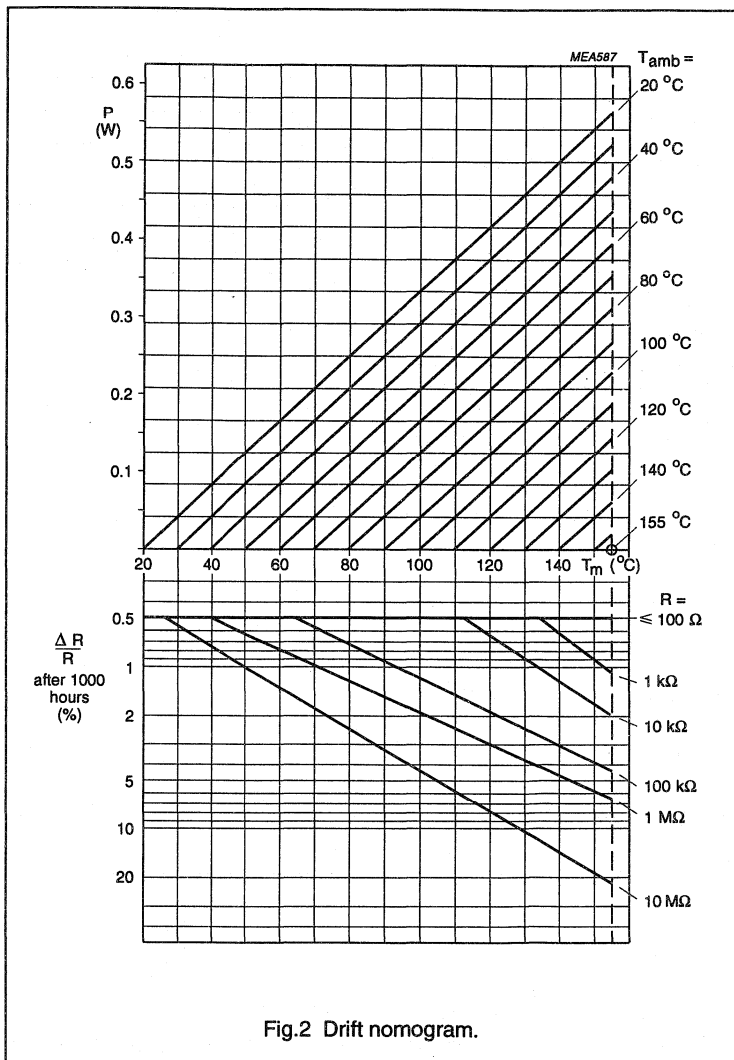

Fig.2 Drift nomogram.
load	see Fig.2
Figure 2 is a performance nomogram showing the relationship between power dissipation (P), ambient temperature (Tamb), hot-spot temperature (Tm), resistance value (R), and maximum resistance drift (ΔR/R) after 1000 hours of operation.
### Notes on nomogram (Fig.2)